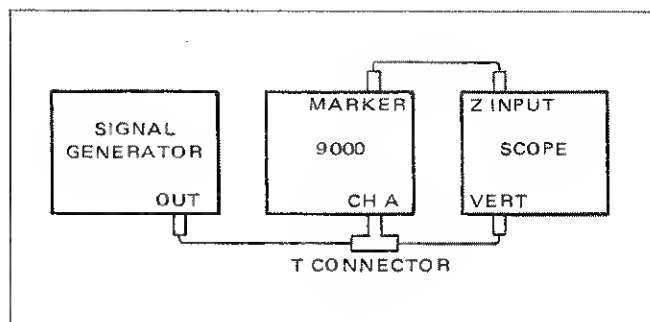

Figure 5.3 - Marker Hookup
- b. Apply a 100 Hz @ .3V P.P. signal to the channel A input and the oscilloscope vertical input; connect the marker output on the back of the counter to the oscilloscope Z axis (see figure 5.3).